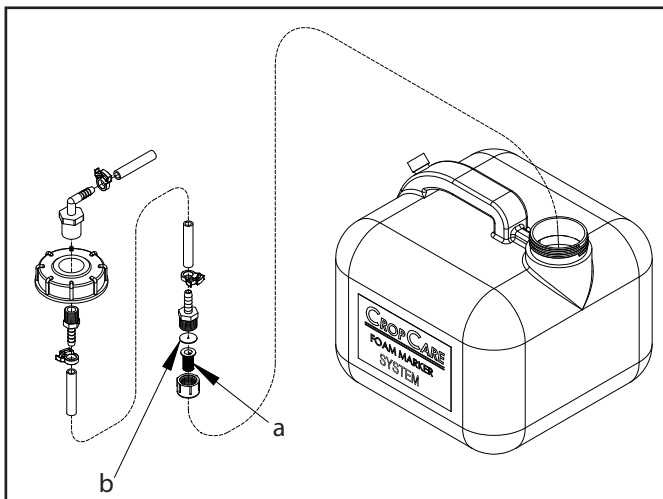

Figure 5: Foamer Tank Assembly
1. Liquid Strainer (a): The liquid strainer is located in the foam solution tank on the end of the suction hose. It should be rinsed after each use or on a daily basis (Figure 5).
2. Orifice Disk (b): The orifice disk is located behind the strainer on the end of the suction hose. Inspect the orifice disk occasionally to ensure that there are no debris or dirt plugging the disk's circular hole (Figure 5).
Plugged orifice disk or strainer on the end of the suction hose	Clean or replace the orifice disk or strainer (Figure 5)